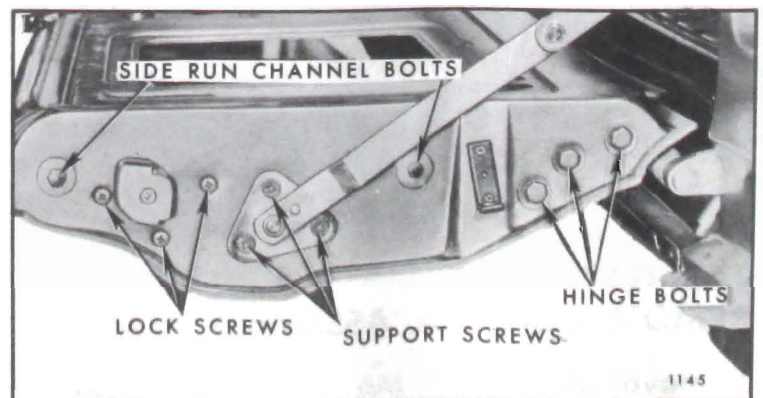

Fig. 9-44—Tail Gate Lock and Support
3. Remove screws securing lock to tail gate. (See Fig. 9-44.)